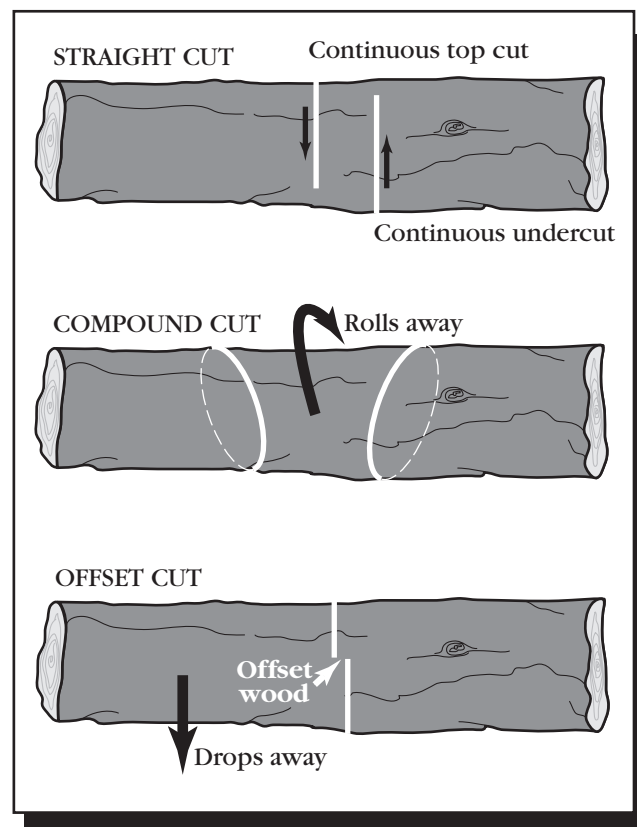

Figure 5-17—Three basic cuts: straight, compound, and offset.
**Types of Cuts**—The three basic types of cuts are straight cuts, compound cuts, and offset cuts. We will describe each type of cut and its usual application (figure 5-17).